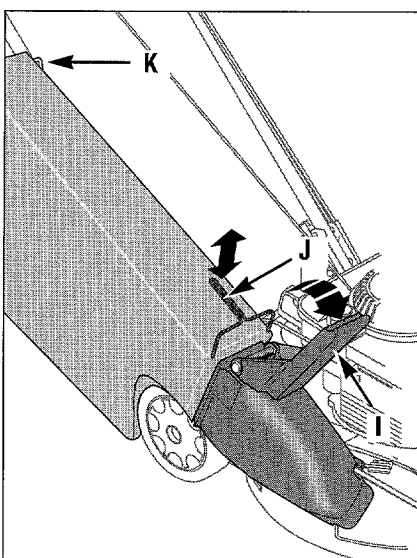

Figure 4-16: Installing Grass Catcher Bag.
F. Swing open boot discharge lid (I, Figure 4-16).
G. Using handle (J, Figure 4-16), slide grass catcher bag collar between side grooves on boot opening.
H. Align hook (K, Figure 4-16) at other end of grass catcher bag over flat surface on right handlebar. *Do not place hook over any cables.*
B. Lift boot discharge lid (I, Figure 4-16) and, using handle (J, Figure 4-16) on top of bag inlet, slip bag off “boot” and handlebar for emptying. (If material is dry and bag is not full, bag can be emptied from front. If bag is full and/or material is wet, bag can be unzipped and emptied from rear.)